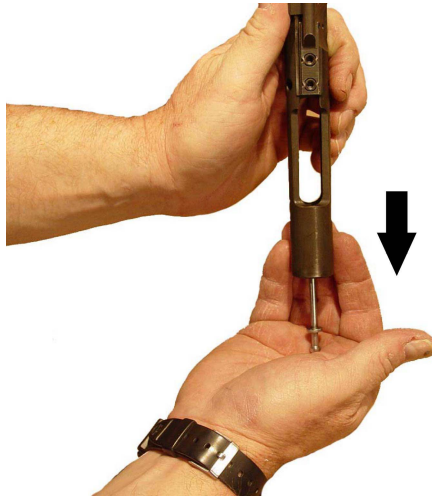

Figure 3-11. Removing Firing Pin from Bolt Carrier
- (3) Drop firing pin out rear of bolt carrier. Refer to Figure 3-11.